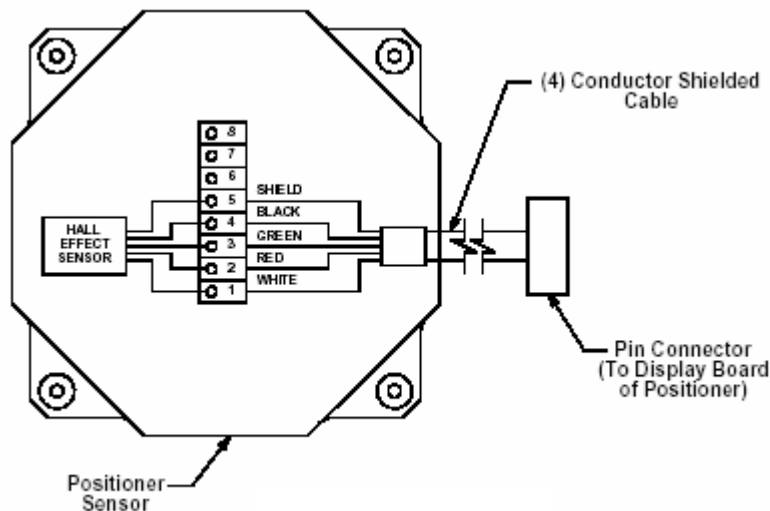

Figure 16
10.3.1. Connect the remote sensor housing cable as shown in Figure 16 below.